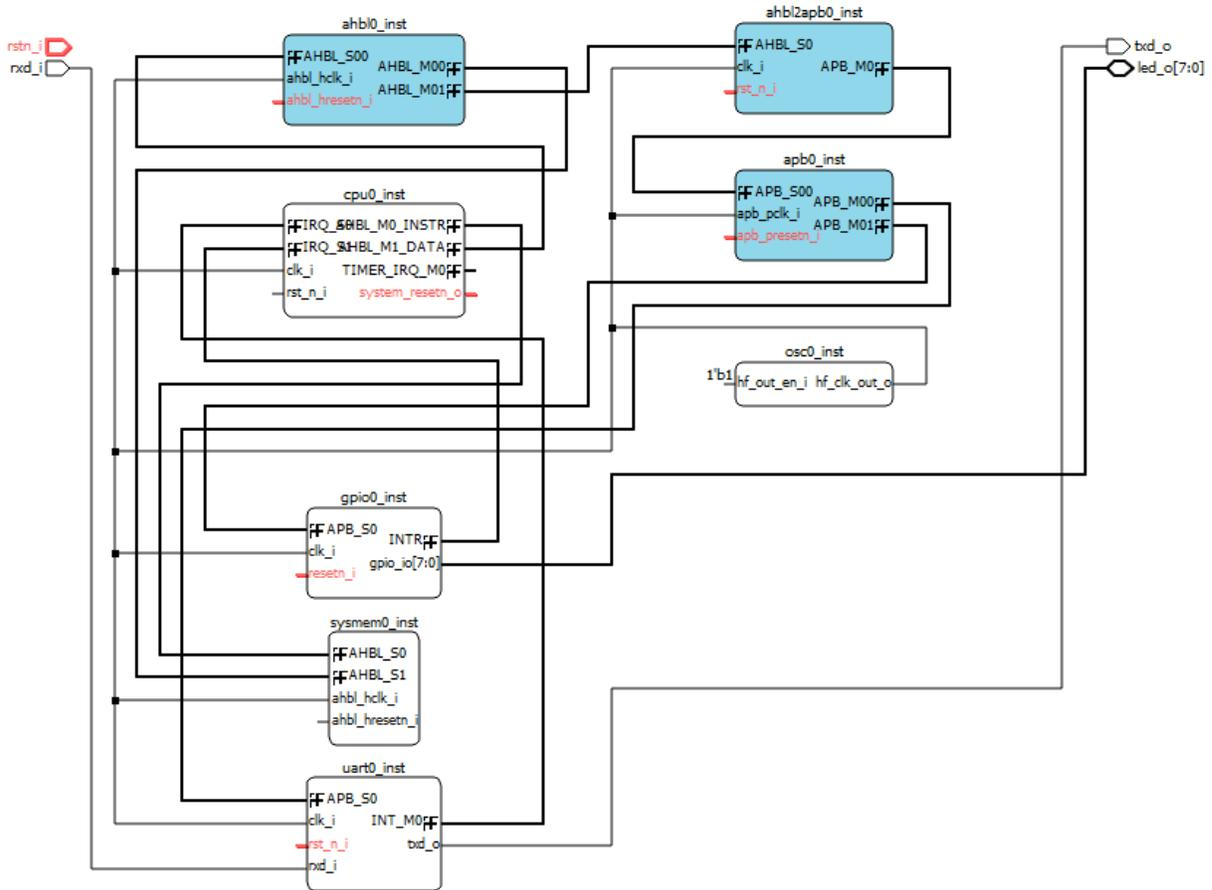

Figure 2.35. Select More Than One Ports
- c. User can connect multiple ports once, when more than one port is selected (Figure 2.35), click **connect**  in the right click menu to implement it.